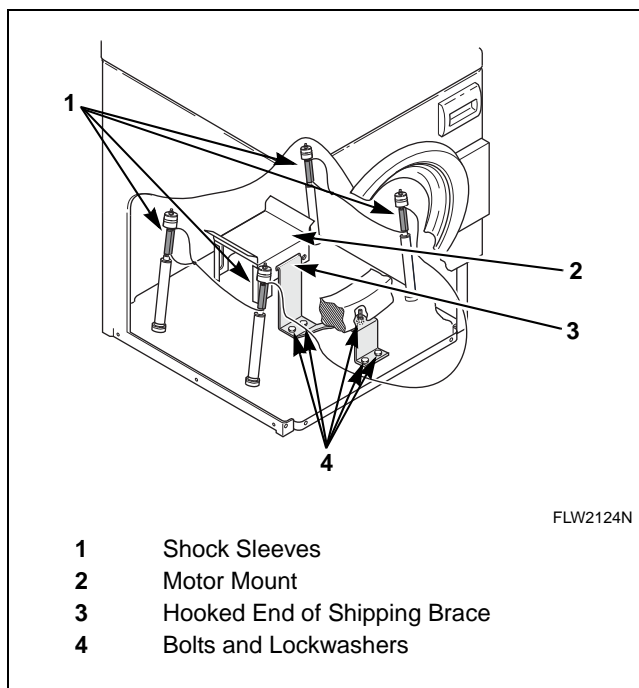

Figure 54
- Place the shock sleeves on all four shock absorbers. Refer to *Figure 54*.
- Attach the brace with the five bolts and washers. Refer to *Figure 54*.